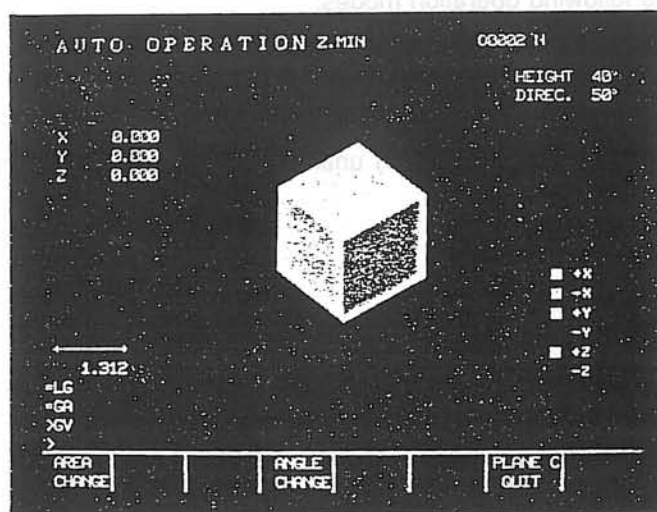

Fig. 5-3
- (2) Drawing speed can be selected from the following two modes.
- (3) Display position and scale can be changed while looking at the tool paths being drawn.
- (4) Programmed shape display without actual axis movements is possible.
- (5) With 3-D display mode, view angle (elevation and rotation angles) can be changed as required so that the operator can check the programmed shape in any angle from any height level. (Fig. 5-3)